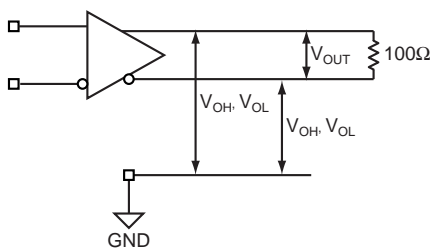

Figure 1a. LVDS Differential Measurement
**Note 3.** Measured as per Figure 1a, 100 $\mu$  across Q and /Q outputs.